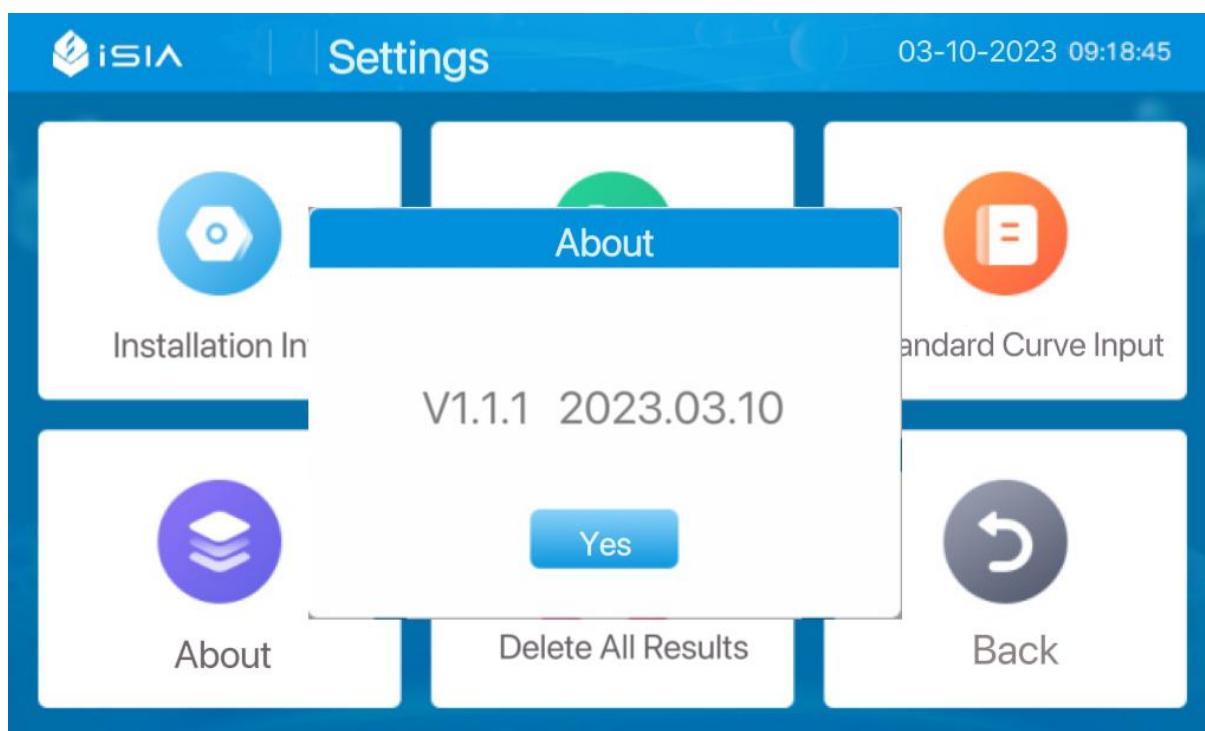

Figure 4.1.8
- 5) The device version information can be checked in [Version Info], as shown in Figure 4.1.8